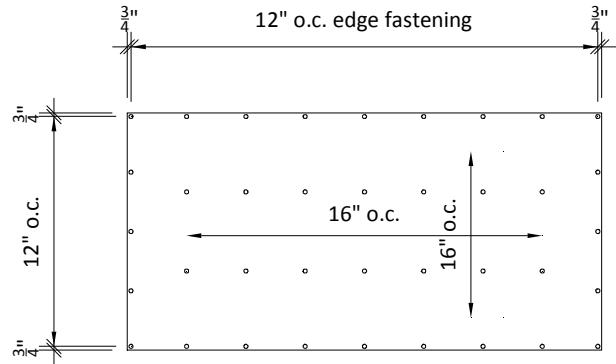

Fig. 7 - Fastener Spacing Diagram
3. Fastener spacing is typically 12" on center along all edges of the panel and 16" on center throughout the middle of the panel. To ensure that the edges do not become damaged fasteners should remain a minimum $\frac{3}{4}$ " from panel edges. See fig. 7